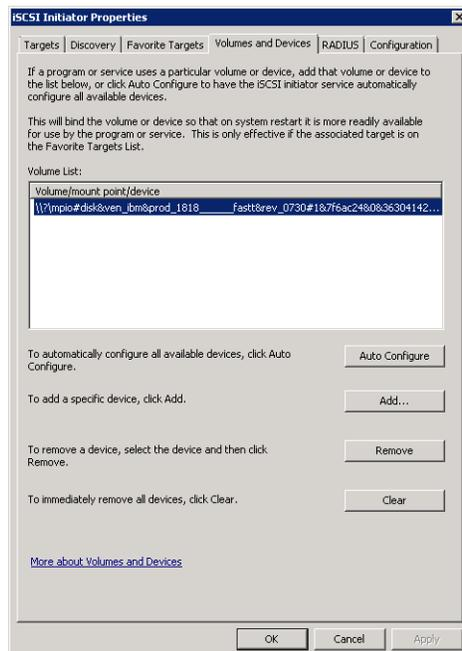

Figure 4-43 Auto Configuring target disk devices
- Because we already have a 10 GB iSCSI target disk configured and presented to our server, we will be able to refresh the discovered device by clicking the **Auto Configure** button on the **Mounted Devices** tab, as shown in Figure 4-43.